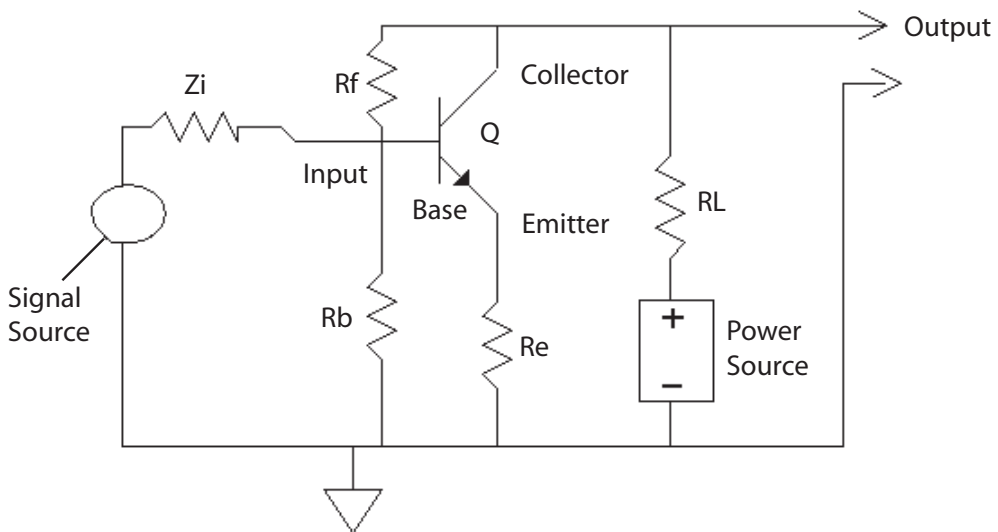
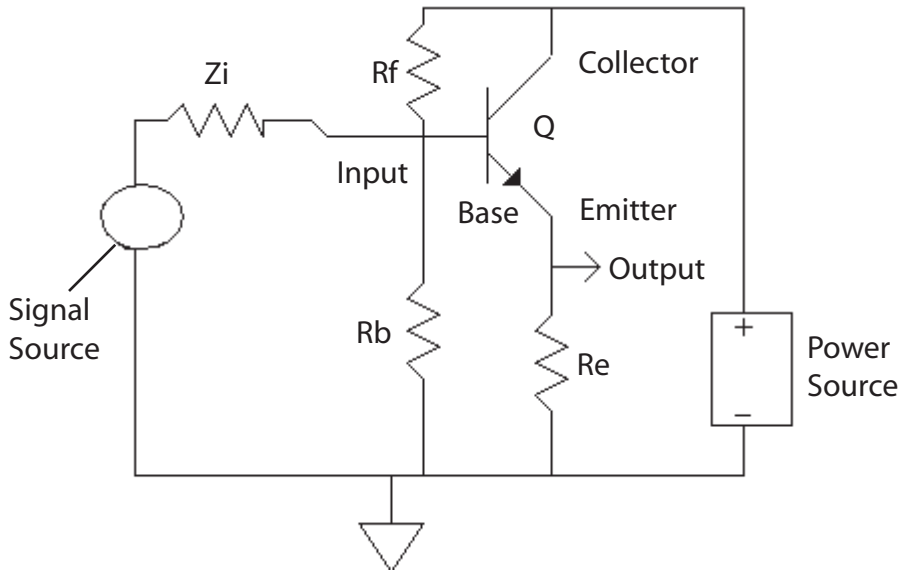

Figure 14-6 NPN common emitter configuration.
Figure 14-7 Common collector (emitter follower).
The transistor alone will not do anything; it must be connected in a circuit to perform some function. There are three basic configurations of amplifiers. They are classified by which of three leads is common to both the input and the output signals. The most common configuration is the common emitter (CE), illustrated in Figure 14-6.
Other configurations of amplifiers are the common base (the configuration discussed vis-à-vis basic transistor operation), common emitter (illustrated in Figure 14-6), and common collector. In a common collector (illustrated in Figure 14-7), the collector is common to the input and output signals. (The battery is considered a short as far as the signal currents are concerned.)
The configuration shown in Figure 14-7, also known as an emitter follower, has a very high input resistance, a very low output resistance, and a voltage gain of less than one. It is used for isolation and impedance matching.